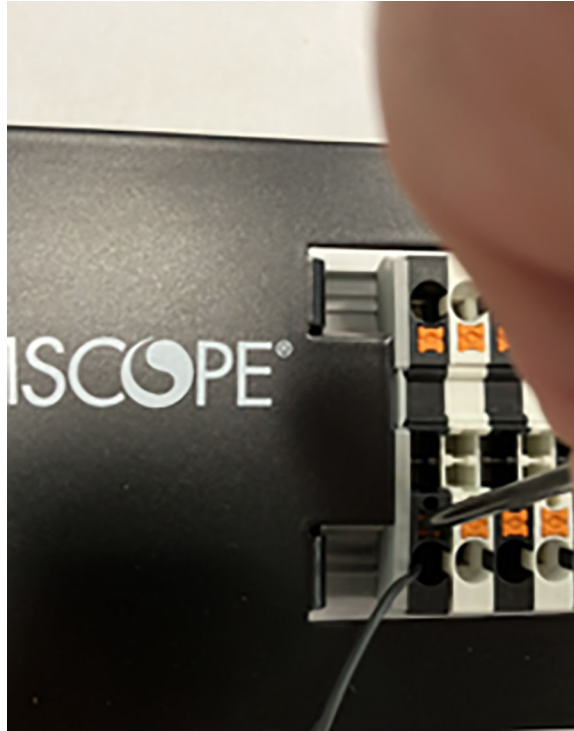

Figure 6. Bare Wire Being Inserted
6. Insert the stripped end of the wire into the opened clamping mechanism in the terminal block. While holding the wire in place, engage the clamping mechanism by removing the small screwdriver (Figure 6).